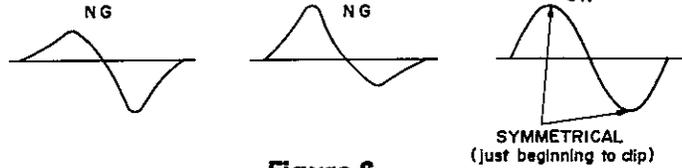

Figure 6
- (1) Check TR505A, 507A, 508A, 509A, 510A (L ch) and TR505B, 507B, 508B, 509B, 510B (R ch).
- (2) Check STEP 2 and STEP 3.
- (3) Check Main Amp. circuits.
- Output signal wave is not clipping symmetrically. (Figure 6)
- Symmetrical clipping (Balanced) Output signal wave. (Figure 6)